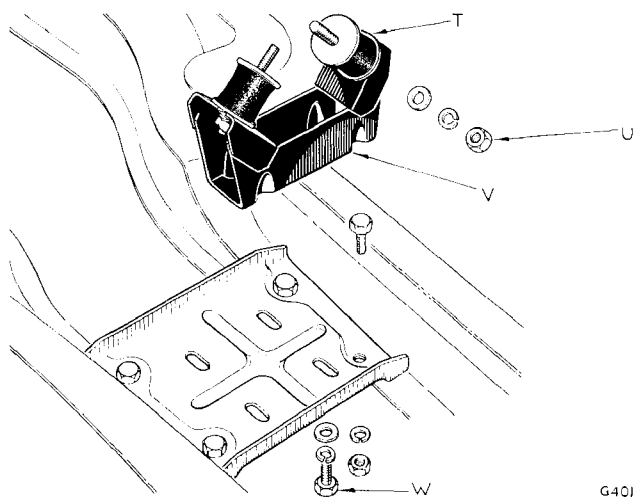

Fig. 8. Rear mounting details
Unscrew the nuts (U) and working beneath the vehicle and release the mounting bracket (V) (2 bolts (W)), (Fig. 8).
Unscrew the nuts (U) and remove the spring and plain washers (Fig. 8).